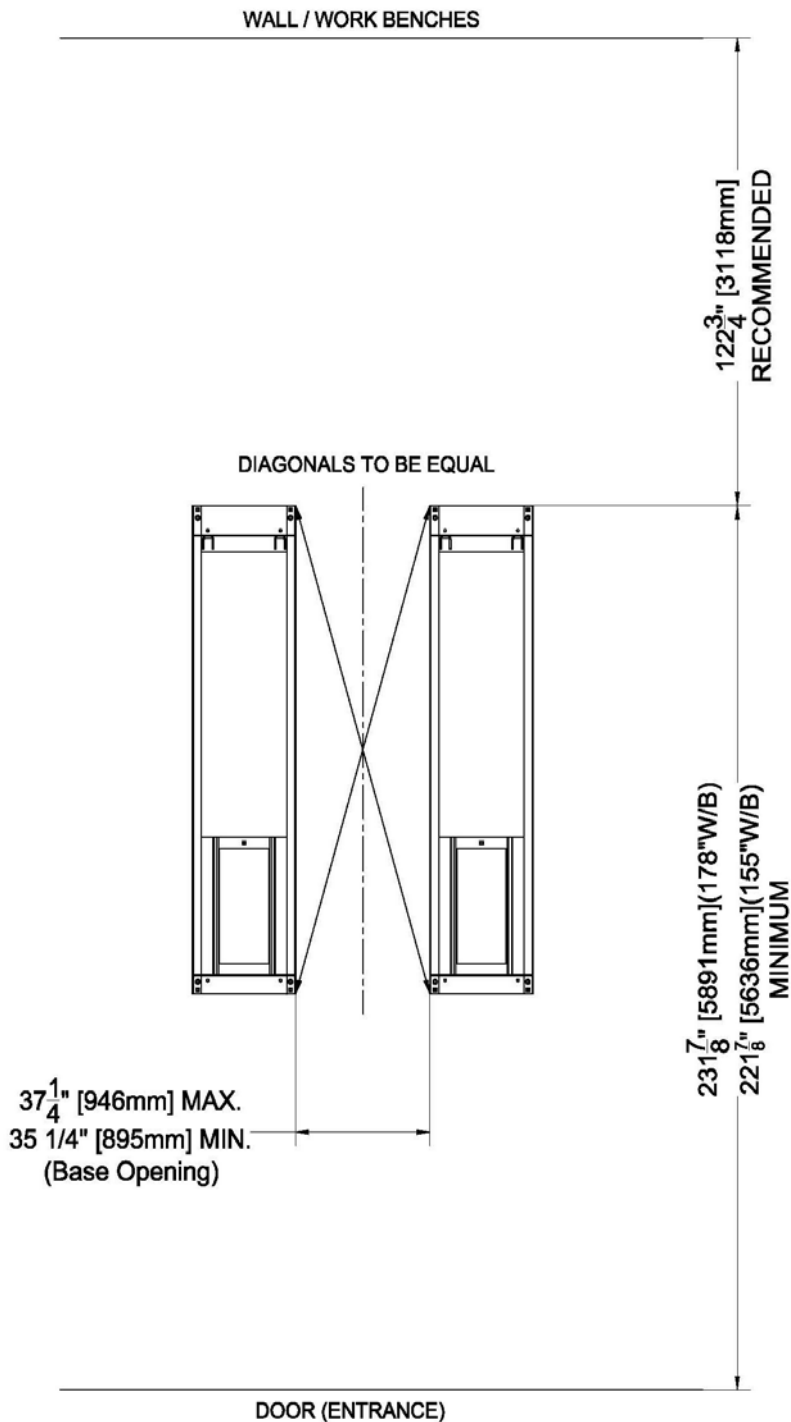

Figure 4: Baseframe Locations
3. Measure and snap two (2) parallel chalk lines on either side the centerline for the inside edges of the baseframes. Refer to **Figure 4** for the dimensions necessary to provide the desired width between the two runways. A distance of 35-¹/₄" between the baseframes will provide the standard width of 38" between the inside of the runways. This can go to a maximum of 37-¹/₄" to provide 40" between insides of runway.
1. Press the UP button and raise the lift approximately 3-4 ft off the ground. Check the location of the baseframes compared to **Figure 4**, and make minor adjustments as required.
2. Level the baseframes using the 5/8" leveling bolts provided at each of the four (4) corners.